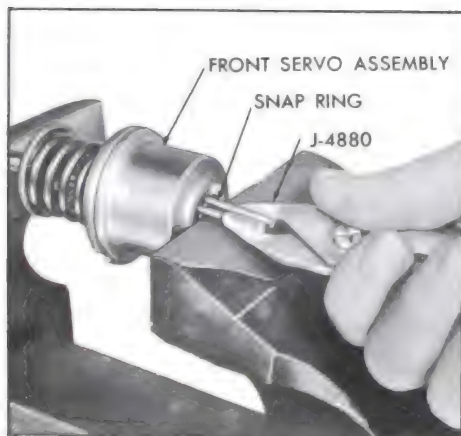

Figure 5-570
1. Place servo assembly in vise so that piston and pin tend to compress spring. See Figure 5-570.